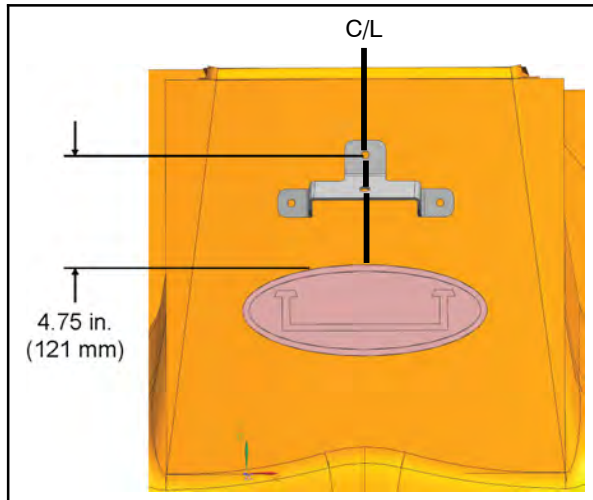

FIG. 8
4. Position the front cover spotlight mounting bracket (3) onto the front cover and mark the locations for the three front cover spotlight mounting bracket mounting holes onto the front cover. (Fig. 8)
5. Drill a 0.375 in. (9.5 mm) hole completely through each hole marked on the front shroud in the previous step. Drill completely through both sides of the shroud. (Fig. 8)